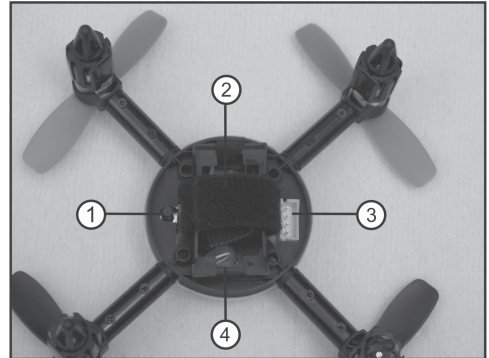

Figure 6
The „Mini-Copter MC 120“ permits you to choose between three different flight modes depending on your experience. The button for this is at the bottom of the Mini-Copter (also see figure 6).
- Then connect the flight battery. For this, push the battery plug into the socket of the „Mini-Copter MC 120“ in the correct polarity (also see figure 6, item 3; observe plug contours). The LED in the model starts flashing green after a short period at a correct reception signal (starter mode).
- Place the flight battery into the intended holder of the „Mini-Copter MC 120“ and secure it with hook-and-loop tape (also see figure 6, items 2 and 4).
- Push the setting bottom of the flight mode (figure 6, item 1) to select the desired mode.